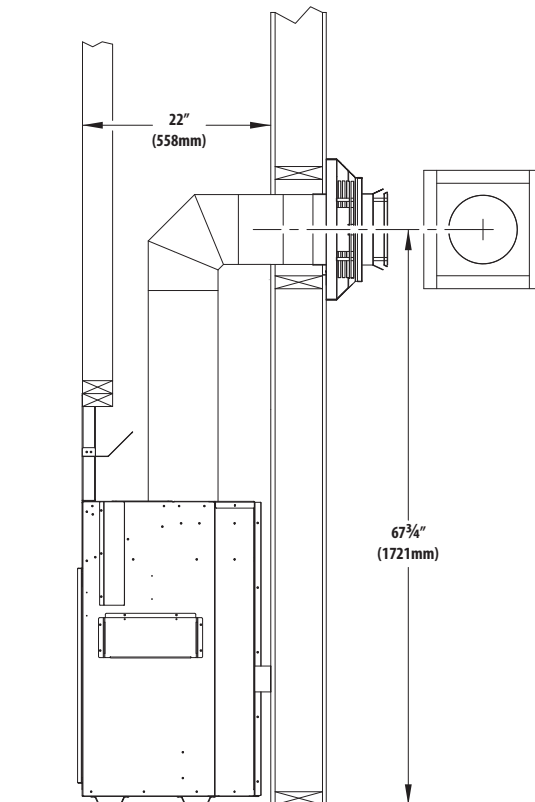

Figure 3.7, Vent Termination Minimum Framing Dimensions
1. Measure from floor level of the fireplace to the center of where the vent pipe will penetrate the wall. The dimension in Figure 3.7 on page 17 is used with a Simpson DuraVent elbow.